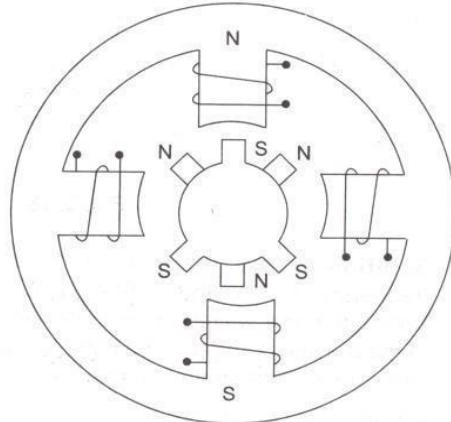

Fig.1 Internal schematic of a four winding stepper motor
- The internal schematic of a typical stepper motor with four windings is shown in fig.1.
- Fig.1 shows a typical winding arrangement of the stepper motor.